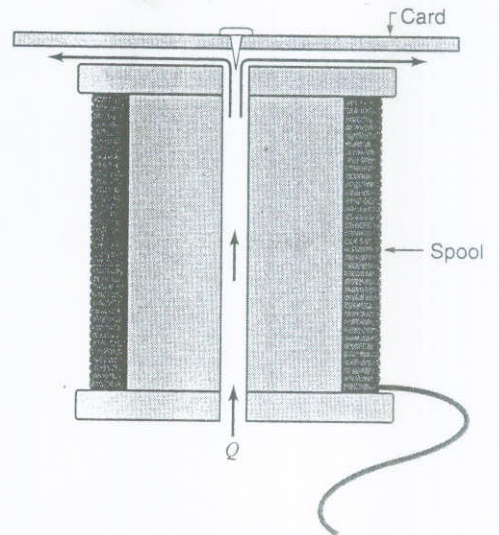

FIGURE P3.100
**3.100** A small card is placed on top of a spool as shown in Fig. P3.100. It is not possible to blow the card off the spool by blowing air through the hole in the center of the spool. The harder one blows, the harder the card "sticks" to the spool. In fact, by blowing hard enough it is possible to keep the card against the spool with the spool turned upside down. (Note: It may be necessary to use a thumb tack to prevent the card from sliding from the spool.) Explain this phenomenon.